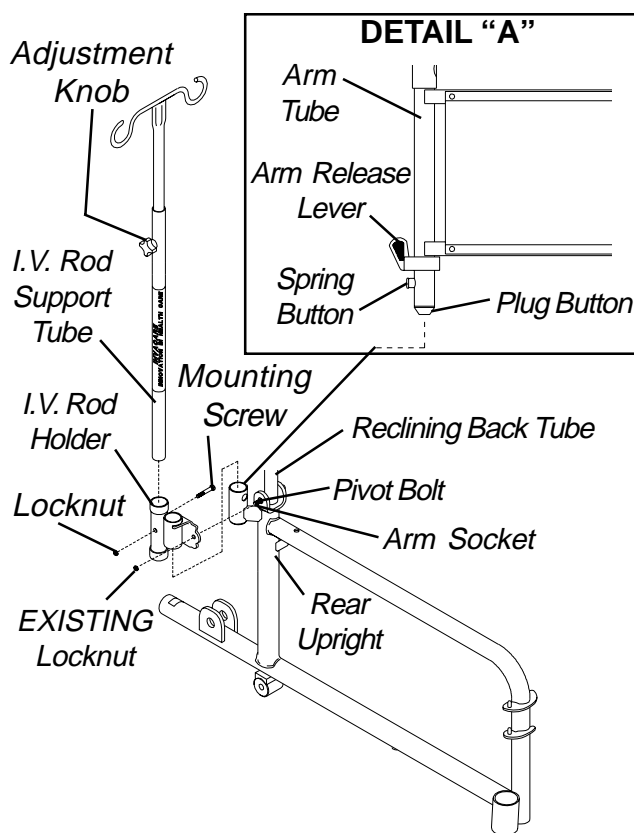

FIGURE 6 - INSTALLING THE TELESCOPING I.V. ROD HOLDER - 2000, 4000 and 9000 RIDELITE
INSTALLING THE TELESCOPING I.V. ROD HOLDER - 2000, 4000 AND 9000 RIDELITE (FIGURE 6)
6. Position the I.V. rod holder onto the EXISTING arm socket as shown in **FIGURE 6**.